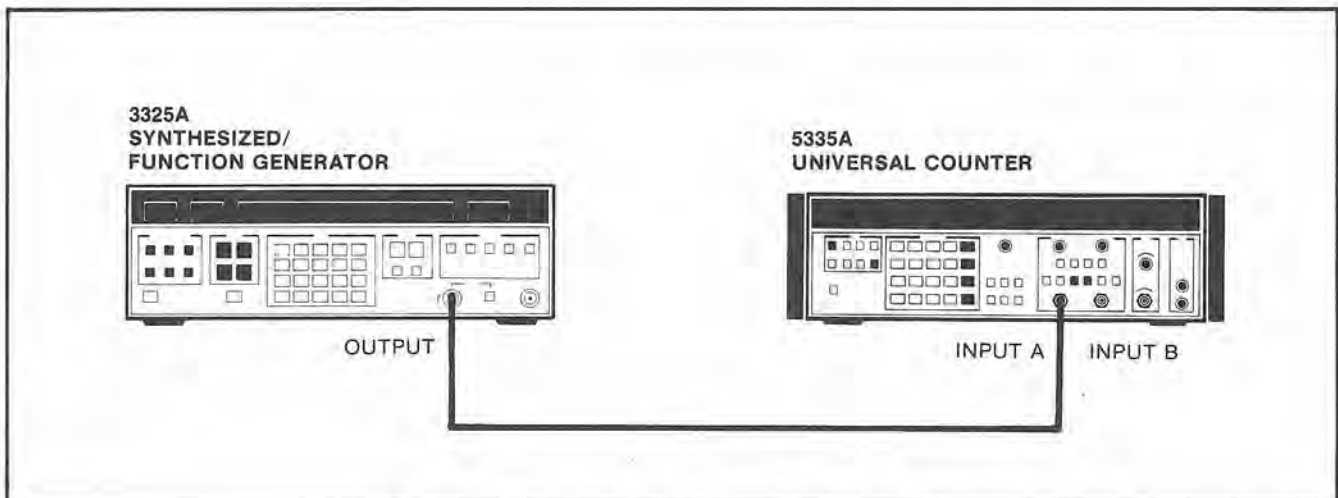

Figure 4-11. Ratio A/B Test Setup (10 Hz to 20 MHz)
b. Connect the 3325A Synthesizer/Function Generator to the 5335A INPUT A as shown in *Figure 4-11*.